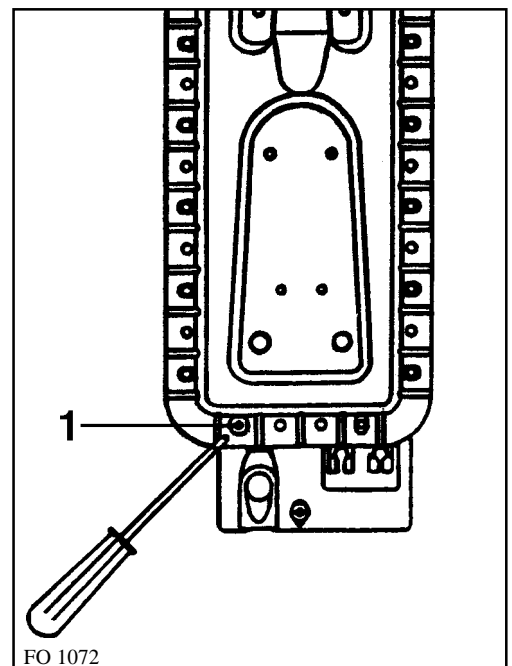

Fig. 30
- b) unscrew screw 1 (fig. 30) and take the oven burner out;